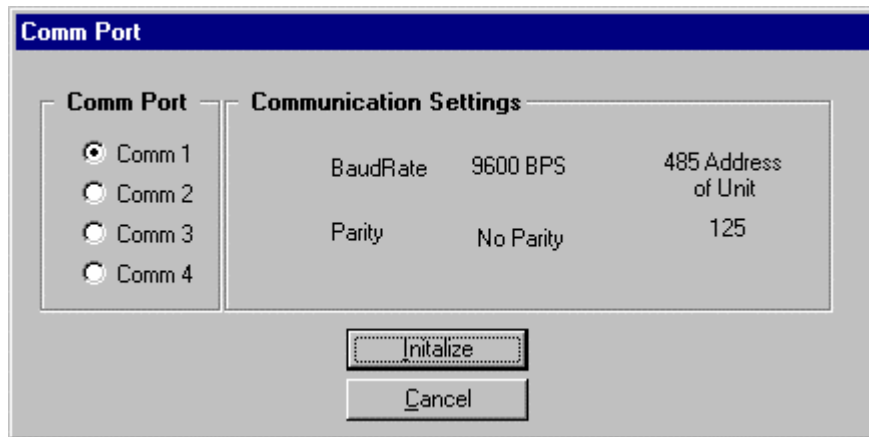

Figure 7-2. Comm Port
**Modem** depending on the communication type desired. This will open the Comm Port screen like the one shown in Figure 7-2.